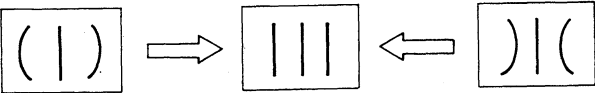

Fig. 31-4
3. Minimize the side pincushion distortion with S.P.N (RV5) on the D board as shown in Fig 31-4.
6. Minimize the side pincushion distortion with S.P.U (RV6) on the D board as shown in Fig 31-4.